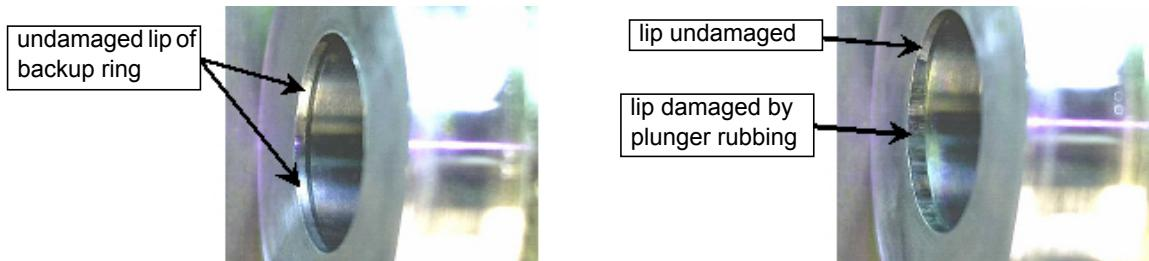

Figure 6-16
- Figure 6-16 shows an undamaged and a severely damaged **backup ring**. The short lip should appear uniform in width all the way around. Any area where the width appears to be wider, or darker, or where machining marks are scraped away, indicates the lip has been rubbed by the plunger.